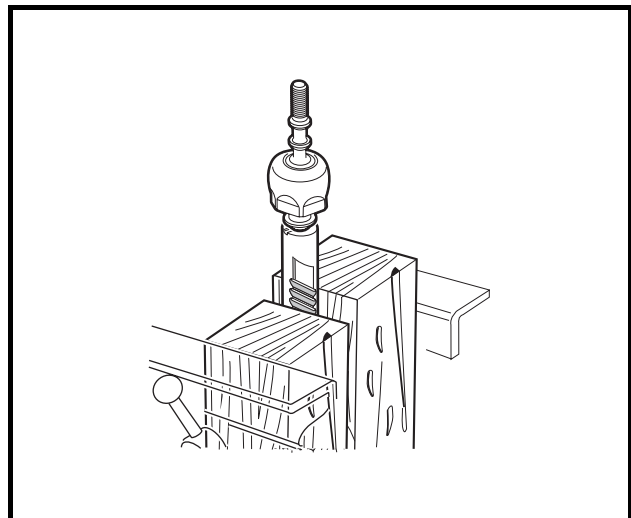

Figure 7-17 Remove Rack
- 11.1. Secure the rack in a vise (**Figure 7-17, Page 7-9**). Use wood blocks between the rack and the jaws of the vise to protect the rack from damage.